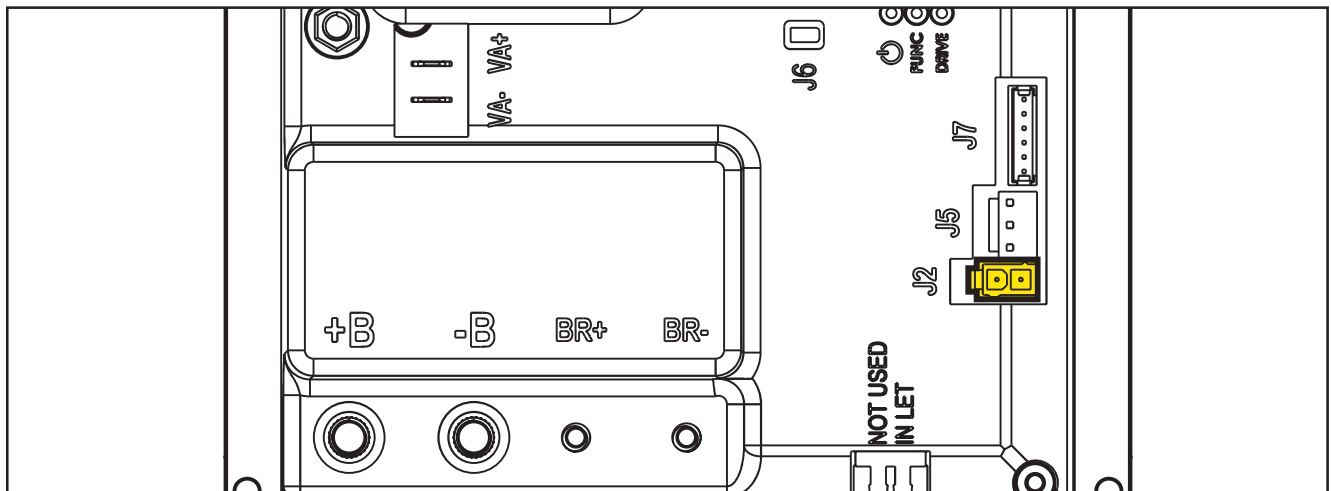

Figure 24:
**(Figure 24) J3: MOLEX MINIFIT type, 6-ways vertical**